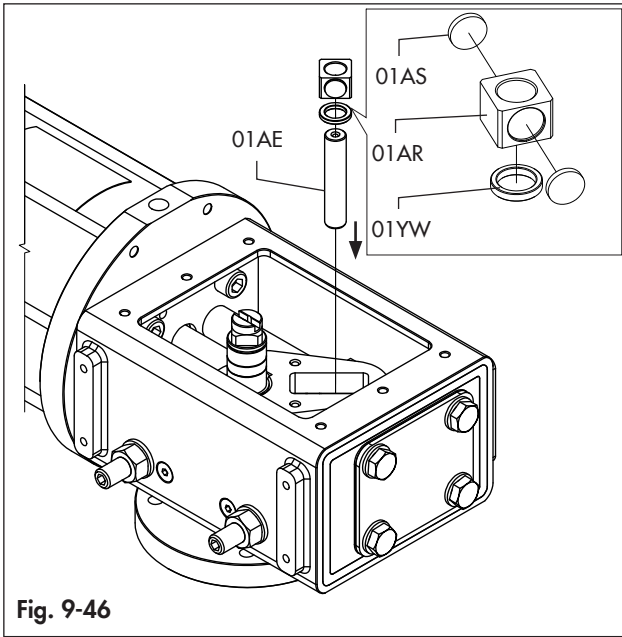

Fig. 9-46
- Align the lower sliding block hole with the sliding block hole by rotating the yoke. (Fig. 9-46).
- Place the yoke pin (01AE) inside its housing. (Fig. 9-46).
- Add the upper sliding block (01AR) the sliding plates (01AS) and the thrust bearing (01YW) on the yoke pin (01AE) inside the yoke (01AN). (Fig. 9-46).